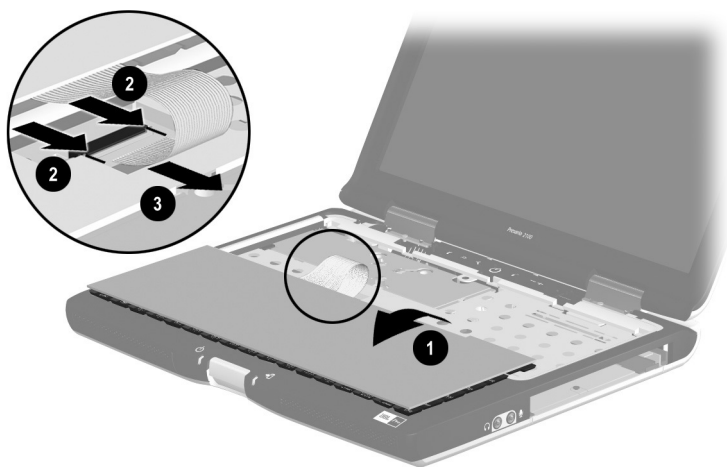

Figure 5-14. Removing the Keyboard
3. Lift the back edge of the keyboard and swing it forward **1** until it rests on the palm rest (Figure 5-14).